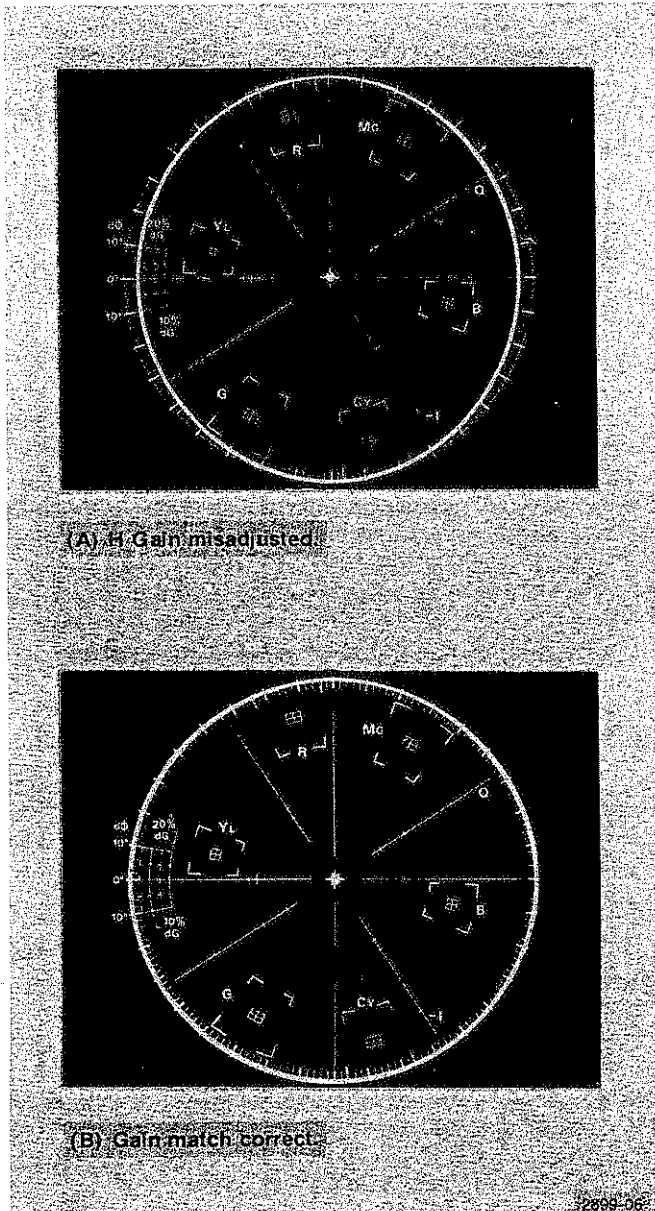
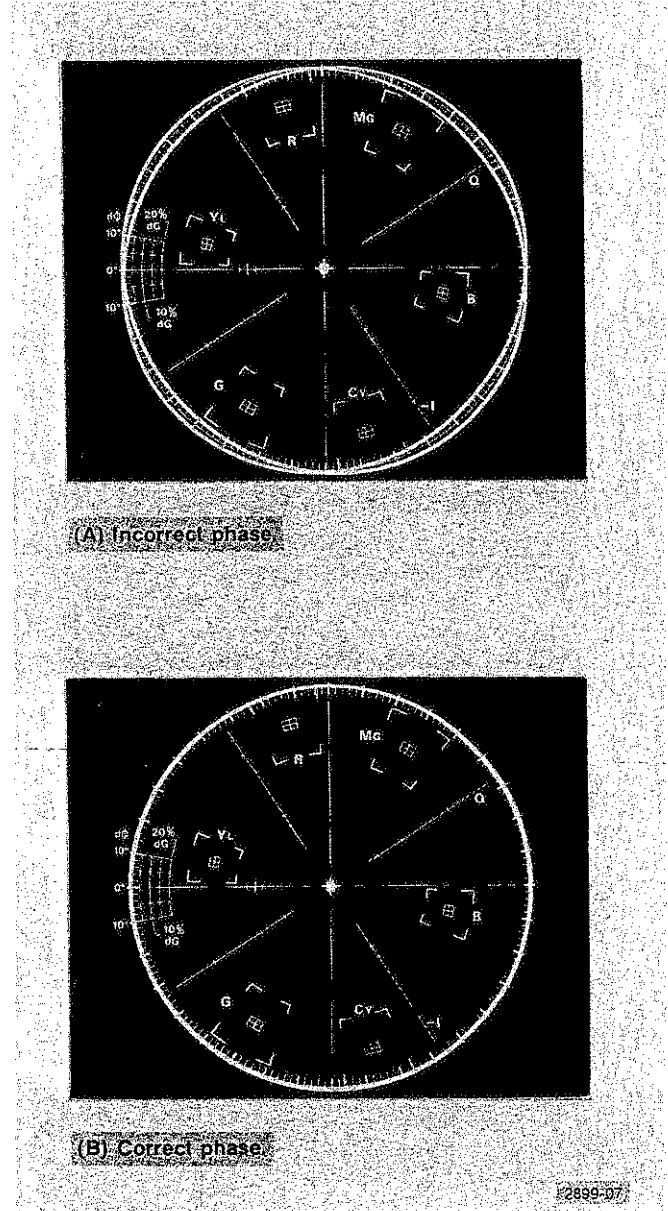

Fig. 2-6. 1420 — Checking the horizontal to vertical gain match.
Fig. 2-7. 1420 — Checking quadrature phase.
a. Set the 1420 INPUT switch to SUBCARRIER (A INPUT). Adjust the 1420 GAIN control to set the termination of the subcarrier signal on the graticule edge. Push the TEST CIRCLE button. This feature can be used to check vertical to horizontal gain match (see Fig. 2-6) and quadrature phase (see Fig. 2-7).